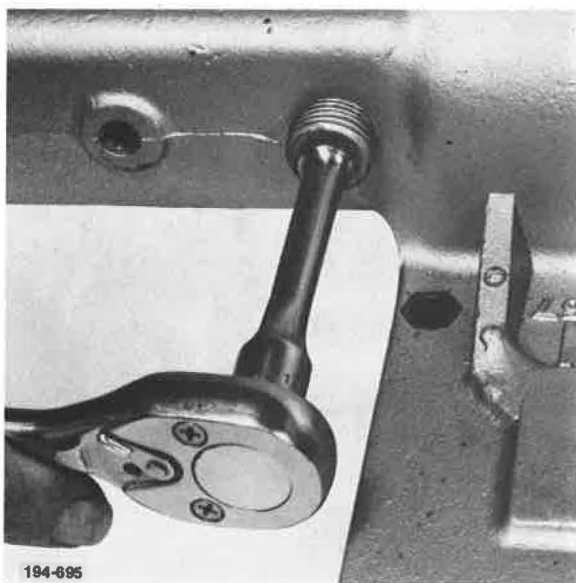

Figure 153. Removing Plug
7. Remove interlock plunger plug from air shift cover. See Figure 153.